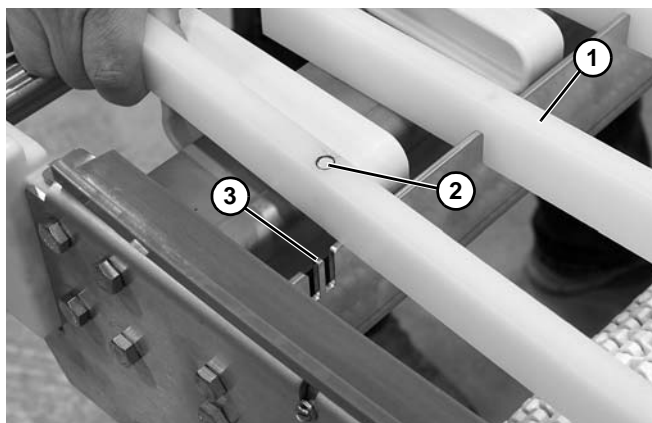

Figure 44
2. Remove worn wear strips (Figure 44, item 1) from the frame notches.
3. Attach new wear strips by installing the locating hole (Figure 44, item 2) over the tab (Figure 44, item 3) on the crossmember.